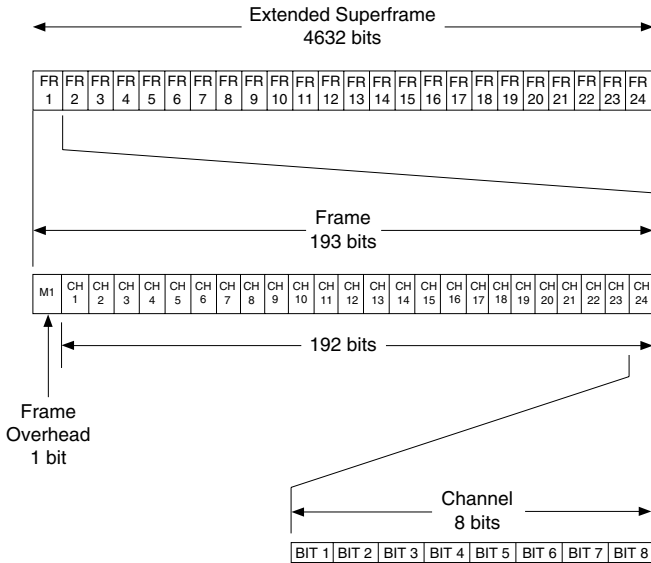

Figure C-2
Figure C-2 shows the Extended Superframe Format (ESF). ESF format or Fe framing is the newest DS1 framing format. This format extends the multiframe structure from a 12 frame superframe to a 24 frame extended superframe. Data channeling for ESF framing is the same as SF (24 DS0 channels per frame), but the function of the framing (F) bit position in each frame is redefined for ESF. The new F bit contains the following three functions: